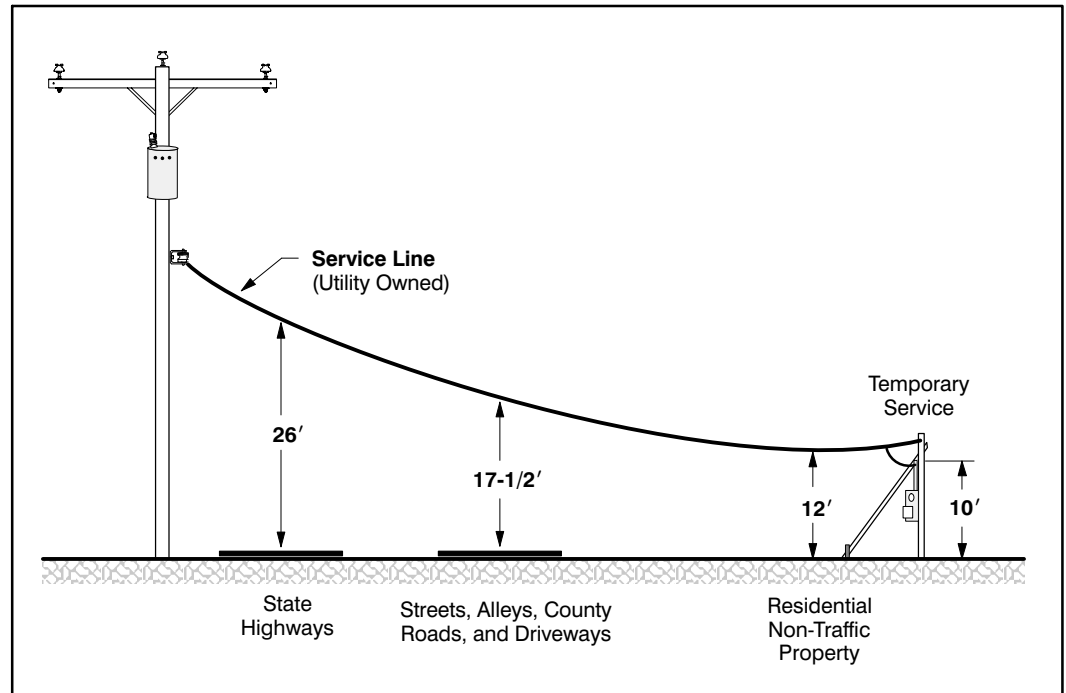

Figure 34 Minimum clearance requirements upon installation
- The service line path should avoid areas where vehicular traffic will occur, unless your temporary service post height is increased to provide adequate **clearance** (see *Figure 34*).
Figure 34 shows the clearance requirements for the types of terrain most commonly encountered.